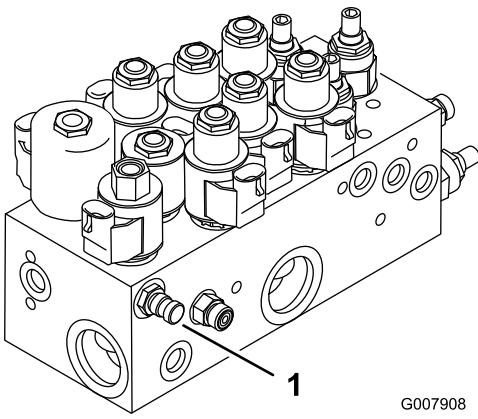

Figure 75
1. Test Port A (Figure 75) is used to assist in troubleshooting the hydraulic circuit for the lift cylinders.